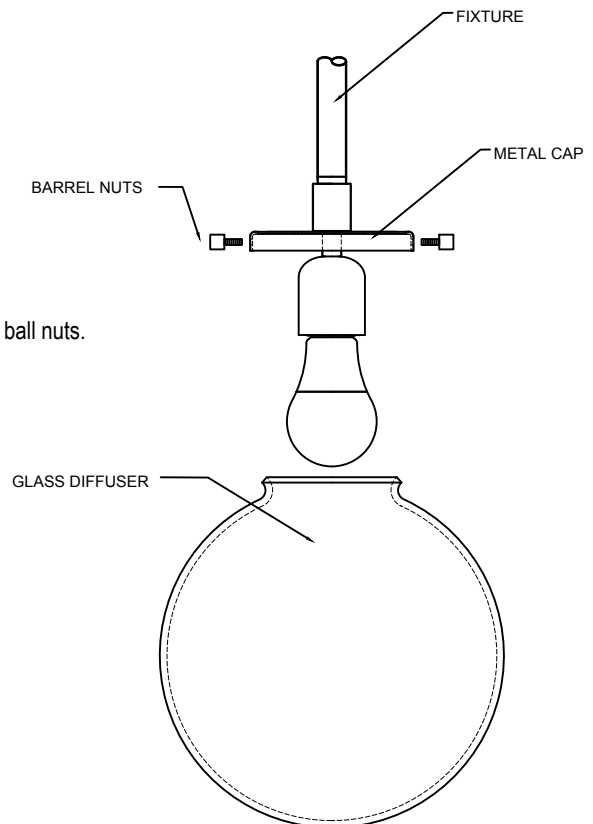

FIGURE-04
10. Install glass diffuser to the fixture, fit the glass to the metal cap and secure it by fastening the barrel nut to the metal cap. (See Figure-04)